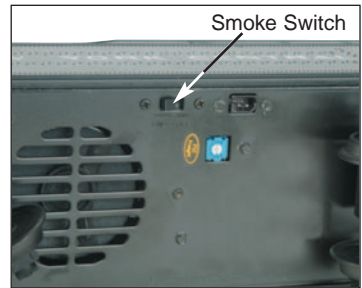

Figure 5 - Smoke Switch
- 2.** If you choose not to prime the unit with fluid, turn the smoke unit switch located under the tender to the OFF position. (See Fig. 5 on page 12) Running the engine without a primed smoke unit may cause damage. See the "ProtoSmoke Unit Operation" section of this book for more information on smoke unit maintenance.
■ If you choose not to add the fluid (or have already added the fluid but choose to run smoke free), turn off the smoke unit switch located under the tender body. (see figure 5) Failure to either add fluid to the unit or to turn it off may damage the smoke unit heating element and/or wicking material.